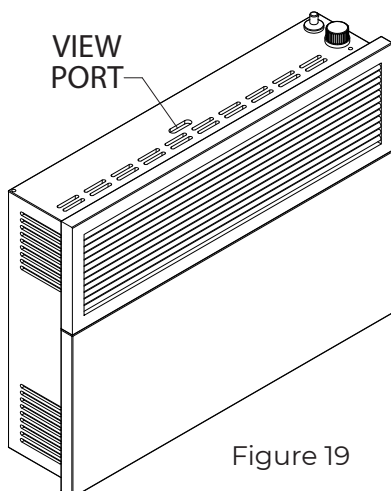

Figure 19
- Pilot and Burner - Periodically visually check the pilot and burner flames (view flames through view port). The correct flame pattern should be viewed by looking through the view port on top of the unit (Fig. 19).